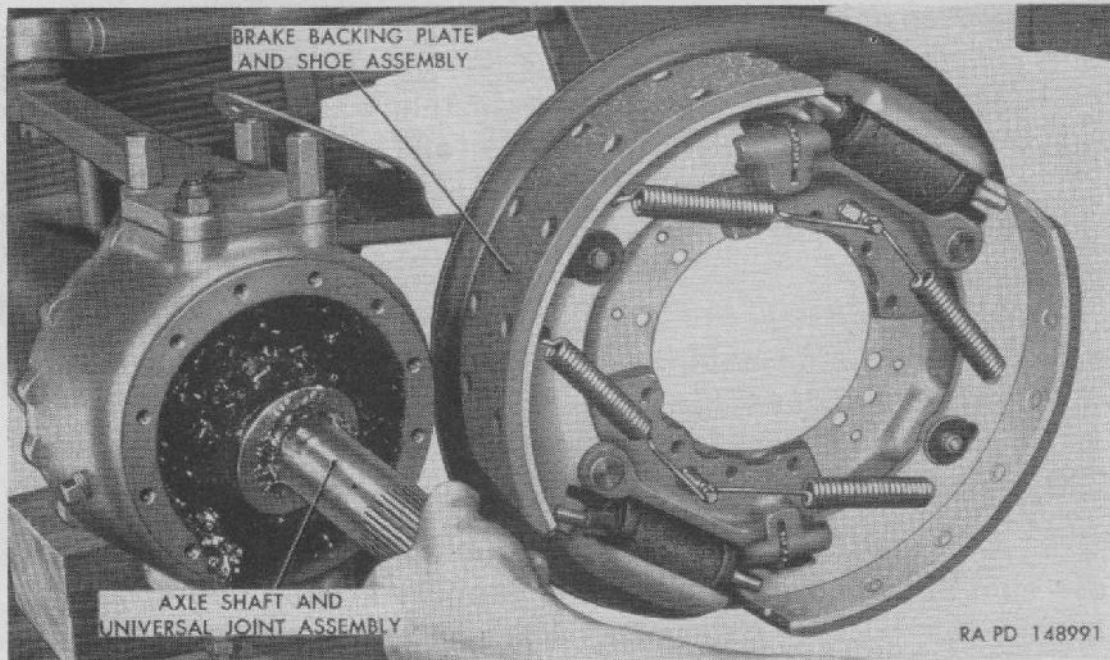

Figure 118. Removing axle shaft and universal joint assembly.
- (5) *Remove steering knuckle.* Tap steering knuckle with soft hammer to loosen from steering knuckle support; then remove steering knuckle. Remove old gasket from steering knuckle and knuckle support.
- (6) *Remove axle shaft and universal point.* Pull assembly straight out (fig. 118) as assembly is supported to avoid damage to axle shaft oil seal in housing.